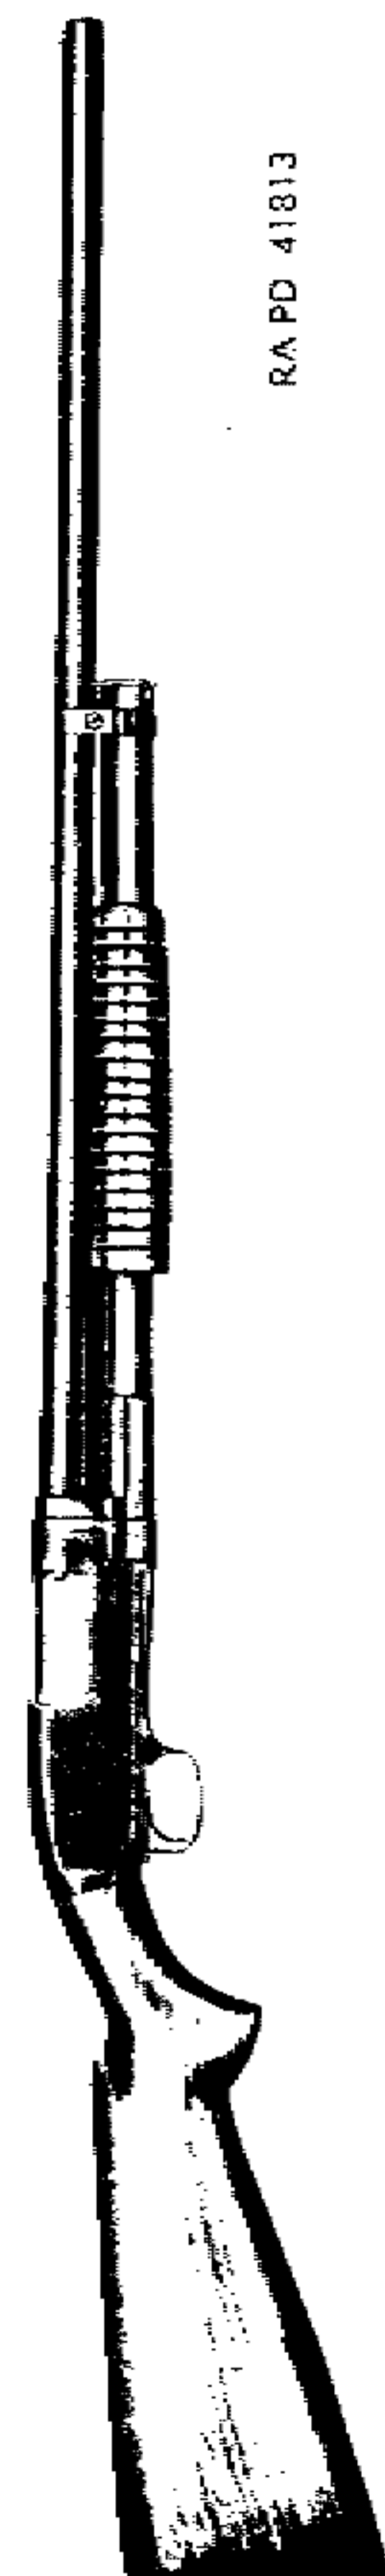

Figure 18—Right Side View—Sporting Trap Type—Winchester Shotgun M12
(1) Name of maker, gage, model, and barrel boring are stamped on the top of the barrel near the breech end.
(2) The serial number of the gun is stamped on the lower face of the barrel near the breech end, and on the lower face of the forward end of the receiver.
b. This gun (figs. 18 and 19) is a manually operated repeating shotgun of the slide action, hammerless, solid-frame and take-down type. The take-down gun is so constructed that the barrel and magazine together with the action slide group can easily be removed as a unit by disengaging interrupted threads on rear end of magazine and barrel from like interrupted threads in the receiver, by which the barrel and magazine are locked to the receiver. This construction facilitates cleaning and transportation of the gun. The construction of barrel magazine and action slide group is similar to, but *not* interchangeable with the Winchester M97 take-down type of gun described in section II. The receiver and operating mechanism, however, differ widely in design. The solid frame type of gun, when issued, will be constructed with barrel and magazine similar to the modified solid-frame Winchester M97 gun (par. 4 c).
(1) The riot-type gun is usually furnished with a 20-inch plain barrel, bored cylinder, and may be equipped with a bayonet attachment and hand guard attached to the muzzle end of the barrel, and a leather sling attached to a sling swivel on the bayonet attachment and the stock. If equipped with bayonet attachment it is solid-frame. Refer to paragraph 3 i.
(2) The sporting skeet-type gun is usually furnished with a 26-inch plain or ribbed barrel, bored improved cylinder, and is without bayonet attachment or sling.
(3) The sporting trap-type gun (figs. 18 and 19) is similar to the skeet-type gun but is furnished with a 30-inch barrel, bored full choke, and is without bayonet attachment or sling.